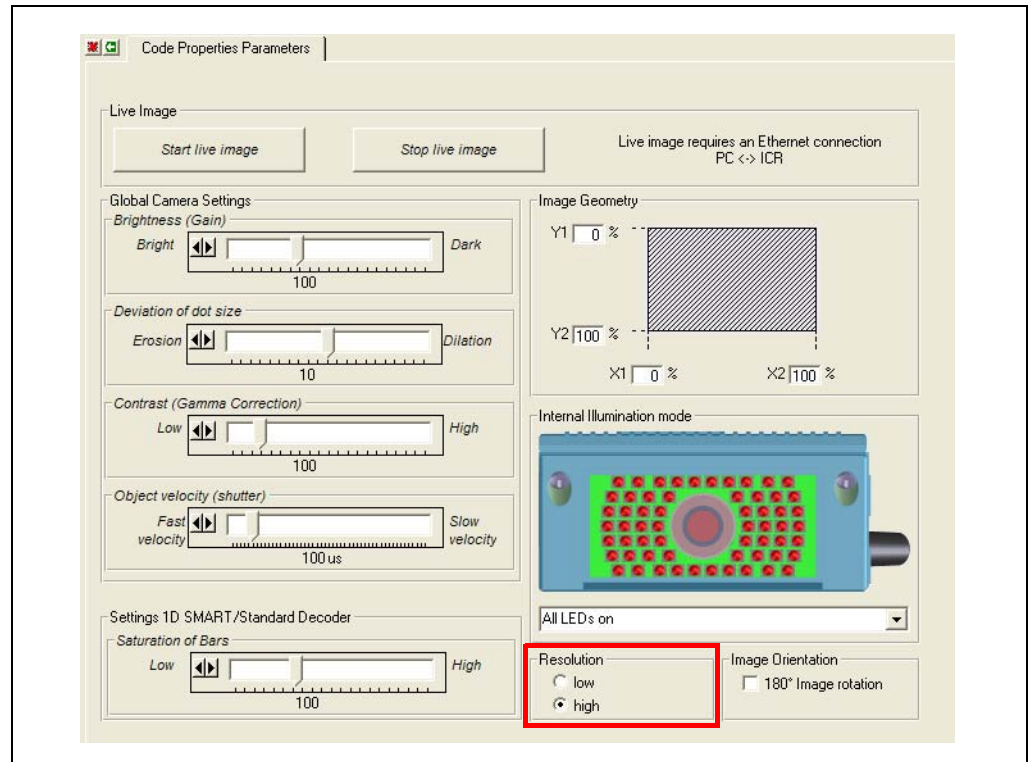

Fig. 10-13: CLV-Setup: "Code Properties Parameters" tab
3. In the RESOLUTION section, switch from HIGH to LOW (if necessary) (*Fig. 10-13, Page 134*).